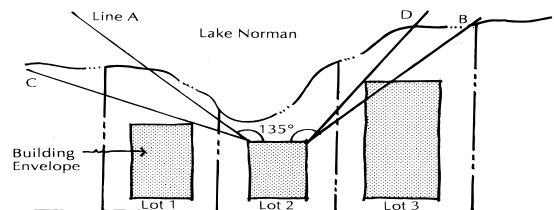

Figure 2.7.1 - Primary View Concept
The location and design of each residence and all other building Improvements should be tailored to the specific features of each Lot. The term "building Improvements" means all Improvements other than landscaping and trees; provided, the term "building Improvements" shall include hedges and other mass planting. All building Improvements should be sited so as to minimize disruption to the existing natural setting, including mature trees, drainage ways and the Primary View. The "Primary View" for each Lake Lot differs based on the Lot's relationship to the other Lots as determined by the ACC, but is generally defined as the area facing the Lake and formed by extending opposing lines (1) at a 135° angle from each rear corner of a Lot's Building Envelope through the closest rear corners of neighboring Lots' Building Envelopes, whichever is smaller. For example, in the accompanying Figure 2.7.1, Building Envelopes are shown with shading; Lines A and B are at 135° angles from the rear corners of the Lot 2 Building Envelope; and Lines C and D extend from the rear corners of the Lot 2 Building Envelope, through the closest rear corners of the Lots 1 and 3 Building Envelopes. The smallest area between any opposing lines is the area between opposing Lines A and D. Therefore, the Primary View from Lot 2 is the area between Lines A and D.
landscape Improvements that might obstruct or diminish such views and view corridors. For example, in Figure 2.7.1, the ACC might approve construction of a swing set for Lot 3 within the Primary View from Lot 2, but disallow the installation of hedges within such Primary View. The ACC will use the Primary View concept as a guide, but not an absolute rule when reviewing proposed building Improvements.